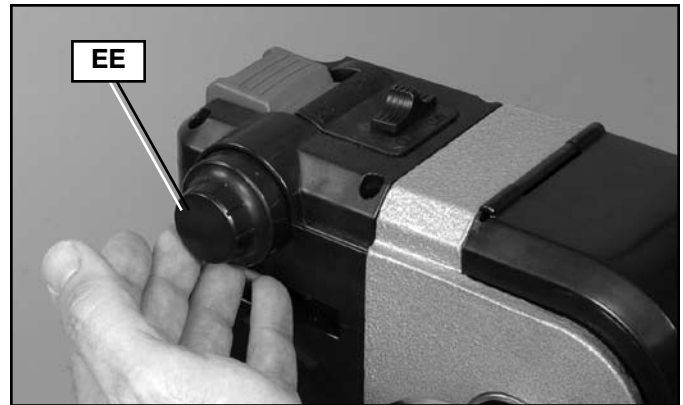

Fig. 20
Once you select a speed range (as described above in **CHANGING PULLEYS** section), use the speed control knob (EE) Fig. 20 to vary the speed within that range. As you face the lathe, turn knob forwards (towards you) to increase speed, turn it backwards (or away from you) to decrease speed.